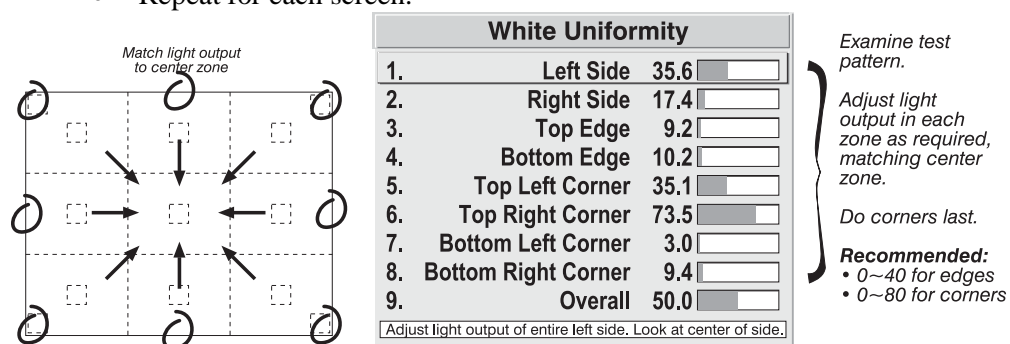

Figure 3.46. Match Zones to Center Light Output
- 3a) For each screen, compare the light output of each *edge* and *corner* to that of the *center*. If any of the areas differ, use the *White Uniformity* menu to match edges and corners to the center as described below (see Figure 3.46). Begin with the screen exhibiting the most obvious variations in light output.